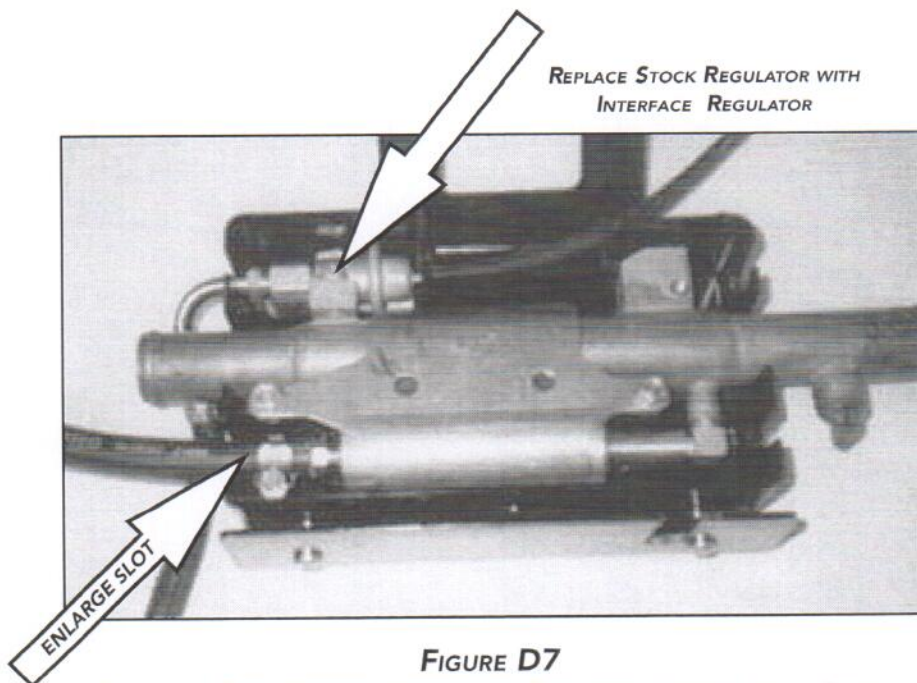

FIGURE D7
1. Locate the stock fuel pump enclosure adjacent to the port side engine mount. Detach the assembly from the motor. Remove the plastic cover and the metal bracket retaining the pump and fuel cooler. Remove the wiring harness from the pump. Review Figure D7.
7. With a round file, enlarge the slot in end of fuel box and the cover to allow for the supplied 3/8" fuel line. Install supplied fuel system interface and fuel cooler into box (see figure D7). Connect the fuel outlet line from the fuel pump to the barb fitting on the interface and secure with hose clamp. Re-install retaining bracket and plastic cover. Re-attach the assembly to the motor.